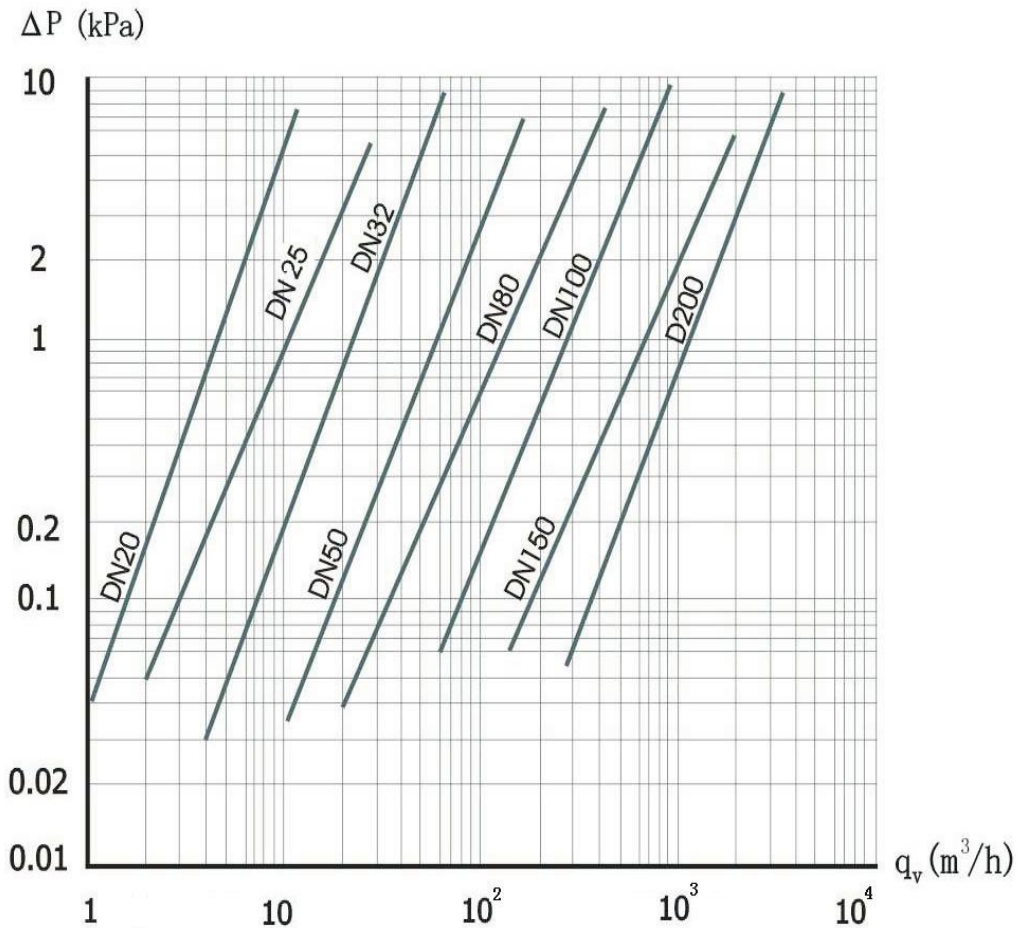

Figure 4 Pressure loss curve
- $\Delta P$  — The pressure loss of the flowmeter when the medium is dry air (kPa). The characteristic curve is shown in Figure 4.